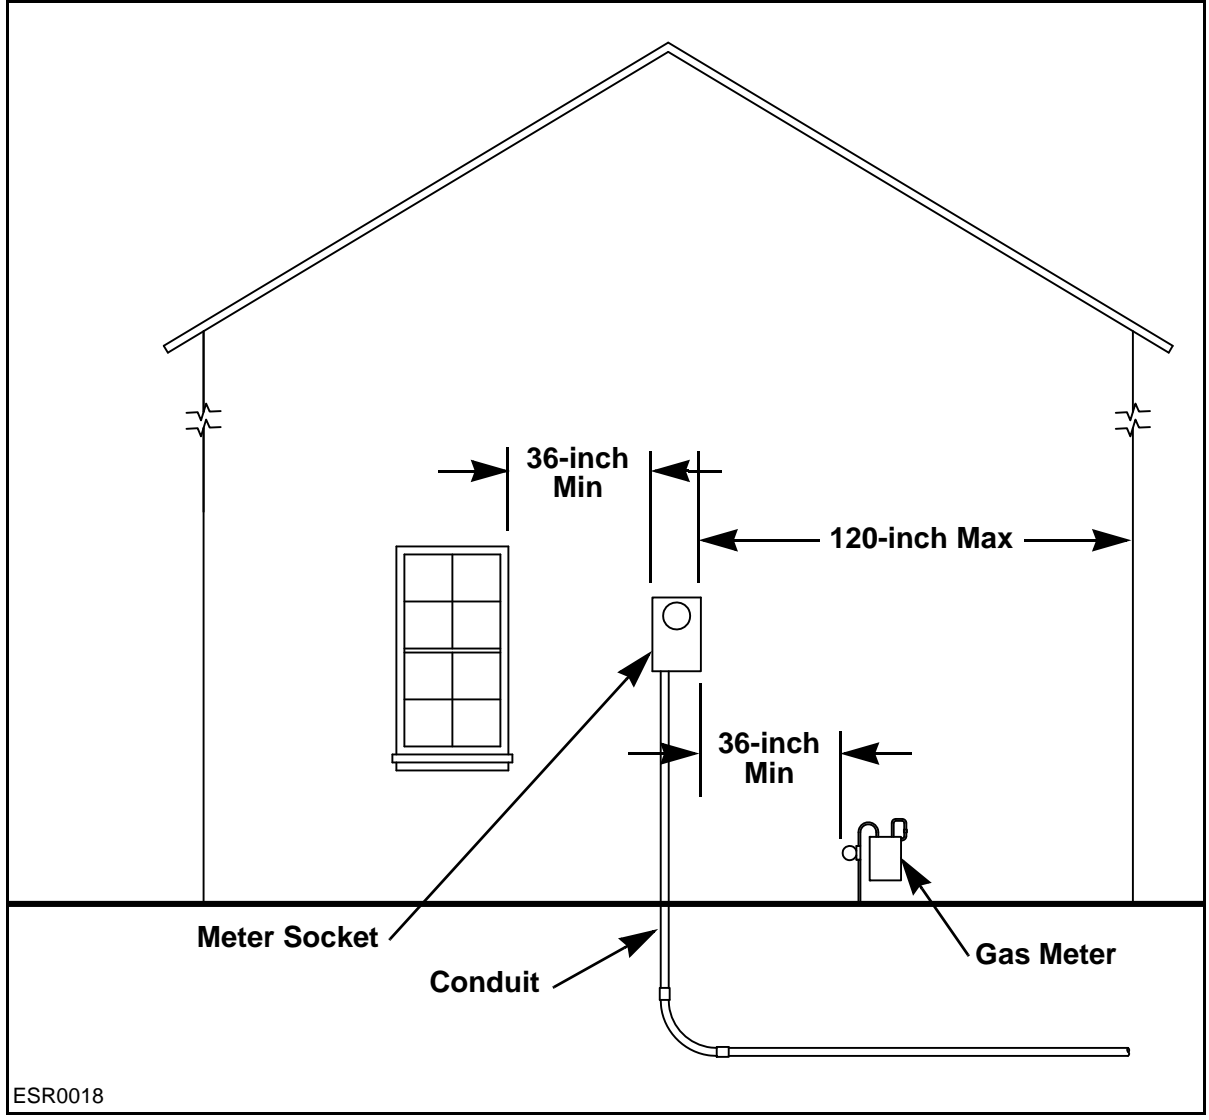

Figure 7-4: Underground Service Extension
See **Figure 7-4** for a typical installation of an underground service extension to the house.
- The service entrance riser must be in line with the left side of the entrance knockout. See **Figure 7-4**.